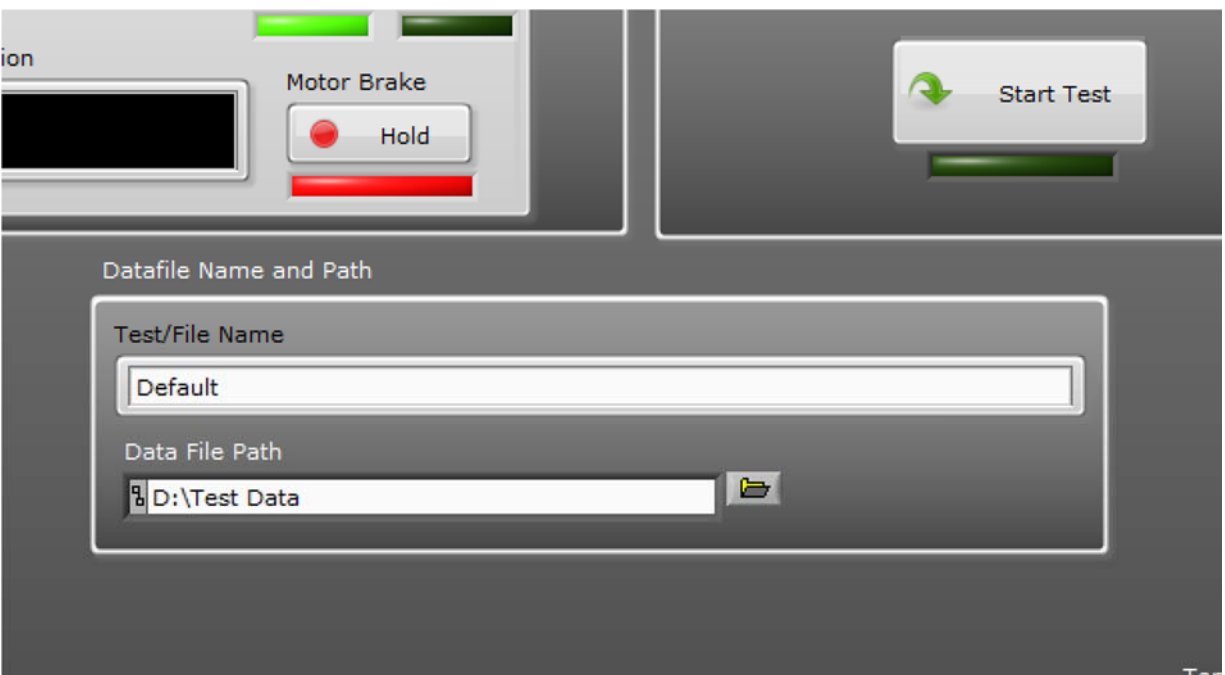

Figure 13. Operational Data Save controls.
- 2.6.1 Refer to figure 13 for the following steps.